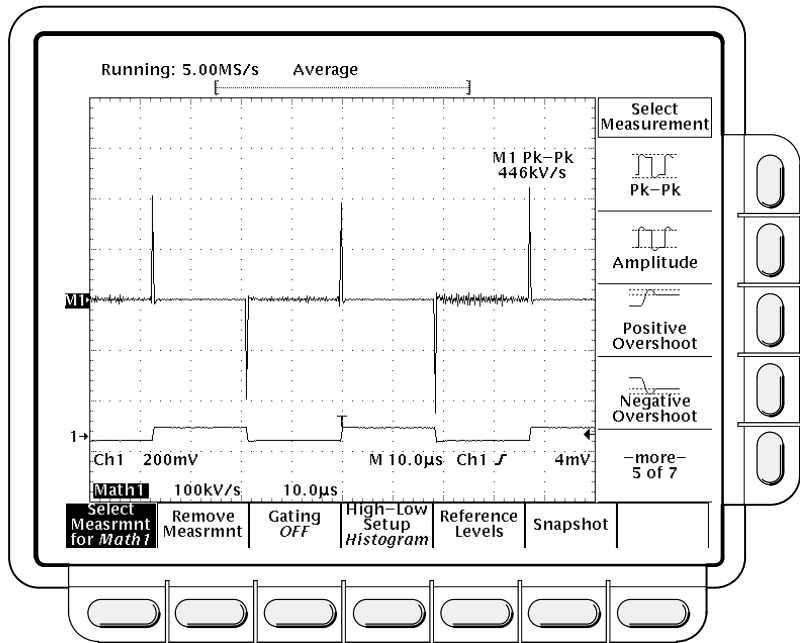

Figure 3-81: Peak-Peak Amplitude Measurement of a Derivative Waveform
3. Select up to four measurements in the side menu (see Figure 3-81).